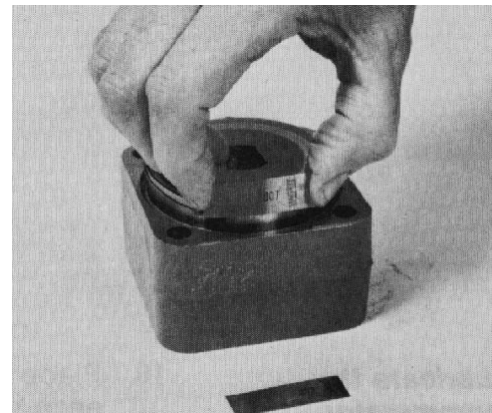

Figure 81
19. Put the metering ring on a hard flat surface. Put the assembled metering package into the metering ring with the commutator cover down, so the drive plate is partially out of the metering ring (Fig. 81). (A suitable wood block under the metering package will hold it in this position.) Put one piece of 0.007 in. (0.18 mm) shim stock approximately 0.5 in. (12 mm) wide and 1.5 in. (38 mm) long between the metering ring and drive plate in three places approximately equal distance around the outside diameter of the drive plate.